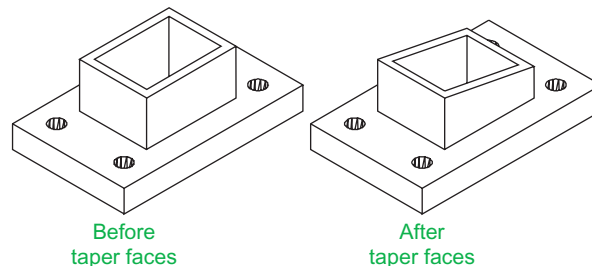

Fig. 18.10 Fifth example – **Taper Faces** tool
Fifth example – **Taper Faces** tool (Fig. 18.10)
1. Construct the 3D model as in the left-hand drawing of Fig. 18.10. Place in **ViewCube/Isometric**.
And the selected face tapers as indicated in the right-hand drawing (Fig. 18.10).